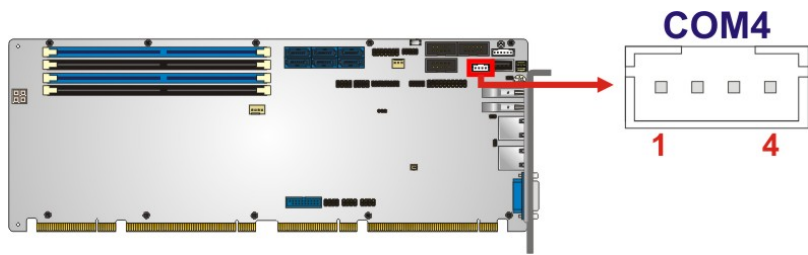

Figure 3-18: RS-422/485 Serial Port Locations
- CN Location:** See **Figure 3-18**